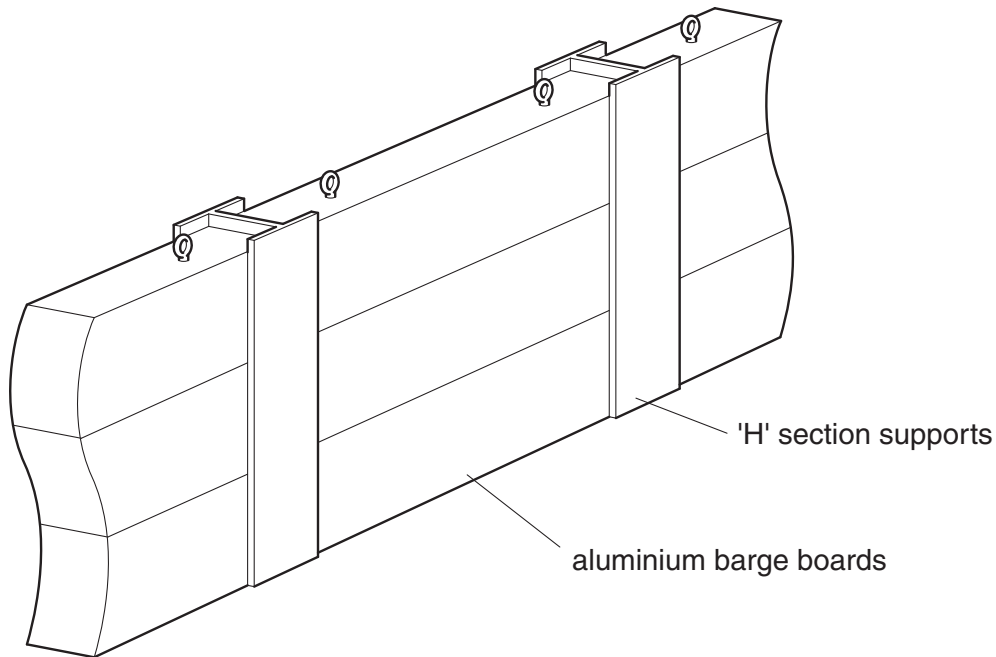

Fig. 1
- 1 Fig. 1 shows part of a flood defence system. Aluminium barge boards are lowered from lorries into fixed 'H' section supports at times of danger from rising floodwater.